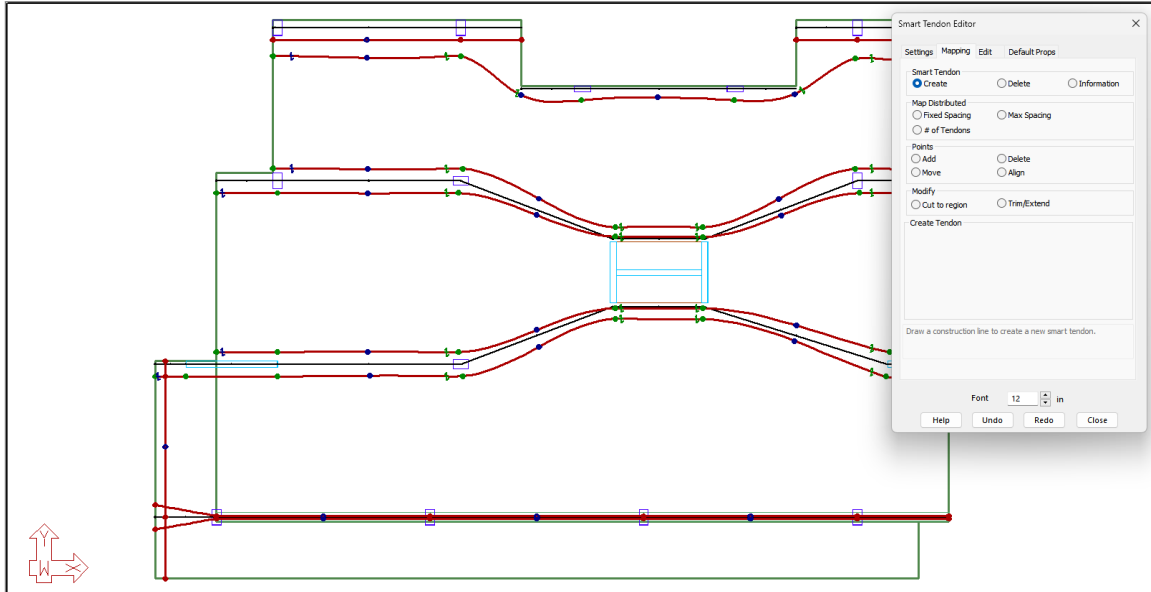

FIGURE 9-70
- Your model should now look like **FIGURE 9-70**.